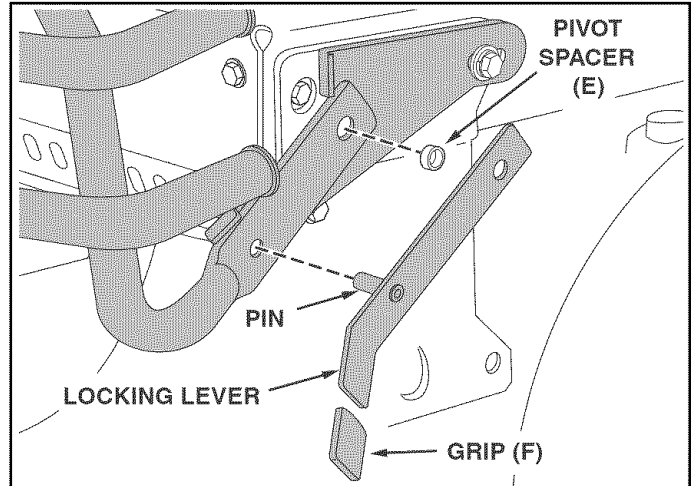

FIGURE 5 LEFT SIDE VIEW
STEP 6: (SEE FIGURES 5 AND 6)
- Assemble plastic grips (F) onto locking levers.
2. Insert pivot spacers (E) into rear holes in bumper.